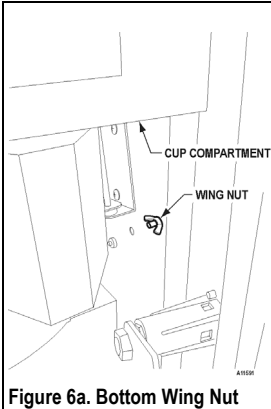
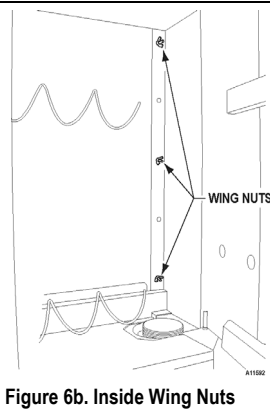

Figure 6a. Bottom Wing Nut
Figure 6b. Inside Wing Nuts
1. Remove and save the wing nut located on the right side below the cup compartment (as viewed from behind the door). See **Figure 6a**.
2. Open the cup compartment door. Remove and save the 3 wing nuts located on the right side of the cup compartment. Loosen 2 wing nuts holding the Top Cap Molding. See **Figure 6b**.
9. Reinstall and tighten the wing nut from steps 1 and 2. See **Figure 6a** and **Figure 6b**.